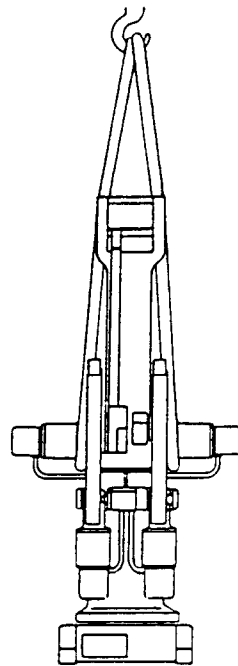

Figure 3-1
N.B. Mind the motor cables! (See Figure 3-1)
1. Raise the robot a bit with straps wound around the motors, see Figure 3-1 above.